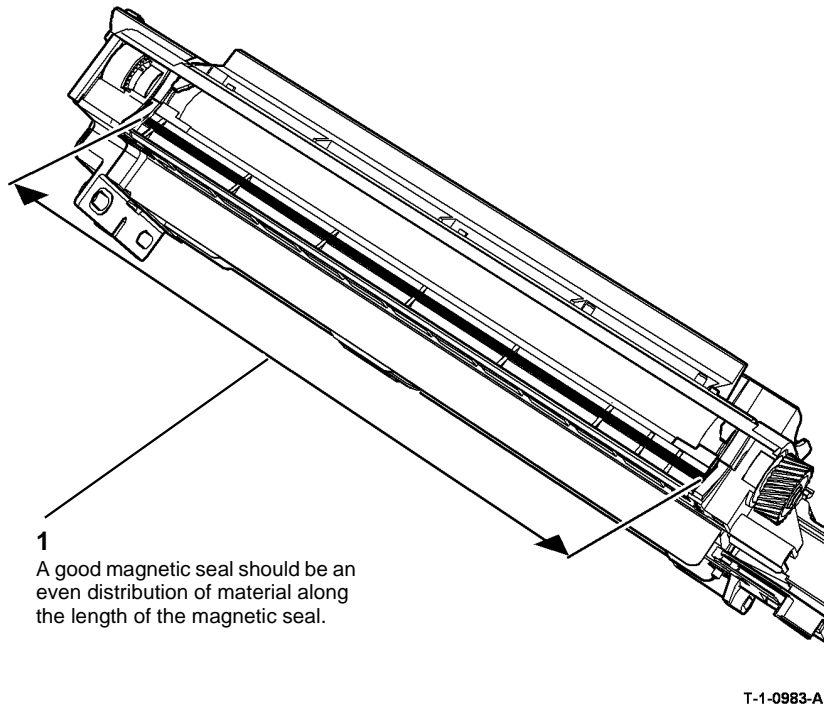

Figure 7 A good magnetic seal
6. An example of a good magnetic seal is shown in Figure 7.